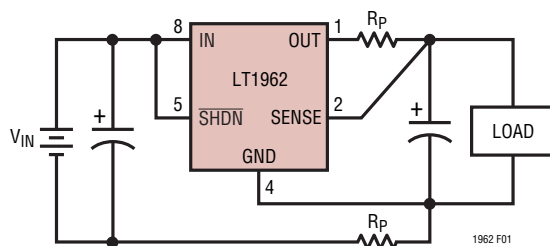

Figure 1. Kelvin Sense Connection
**SENSE (Pin 2):** Sense. For fixed voltage versions of the LT1962 (LT1962-1.5/LT1962-1.8/LT1962-2.5/LT1962-3/LT1962-3.3/LT1962-5), the SENSE pin is the input to the error amplifier. Optimum regulation will be obtained at the point where the SENSE pin is connected to the OUT pin of the regulator. In critical applications, small voltage drops are caused by the resistance ( $R_P$ ) of PC traces between the regulator and the load. These may be eliminated by connecting the SENSE pin to the output at the load as shown in Figure 1 (Kelvin Sense Connection). Note that the voltage drop across the external PC traces will add to the dropout voltage of the regulator. The SENSE pin bias current is  $10\mu\text{A}$  at the nominal rated output voltage. The SENSE pin can be pulled below ground (as in a dual supply system where the regulator load is returned to a negative supply) and still allow the device to start and operate.